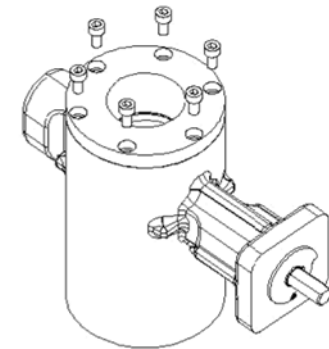

FIGURE 4
6. Fasten the six (6) cap screws back into the end cap. Make sure that the cap end and the body are in full contact with each other. (Fig. 4)